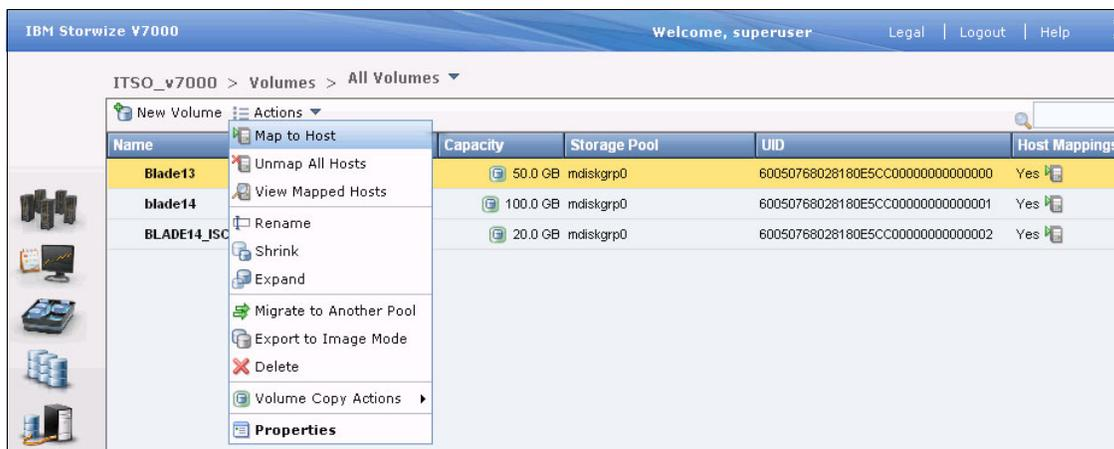

Figure 10-124 Map to Host window
10. From the **Volumes** menu (Figure 10-124), select the volume that you created, and click **Actions** → **Map to Host**.